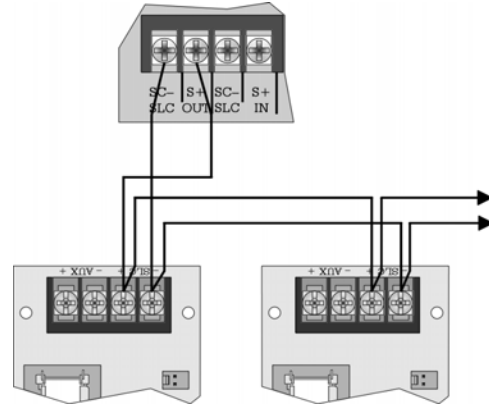
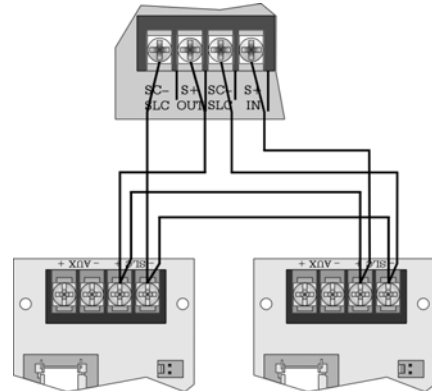
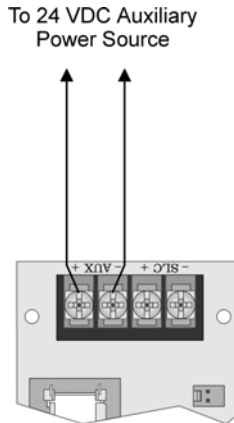

Figure 1: Class B (Style 4) Wiring
Figure 2: Class A (Style 6) Wiring
Figure 4: Auxiliary Power Connections
The SD505-6SB can be connected to the FACP for either Class B (Style 4) or Class A (Style 6) supervision. Connect the SD505-6SB to the FACP as shown in Figure 1 or Figure 2.
The SD505-6SB can use aux power from a UL listed, power-limited 24 VDC source. Figure 4 shows how to connect the SD505-6SB to an auxiliary power supply.
2. Connect Aux power and the SLC loop as shown in Figure 1, Figure 2 and Figure 4.